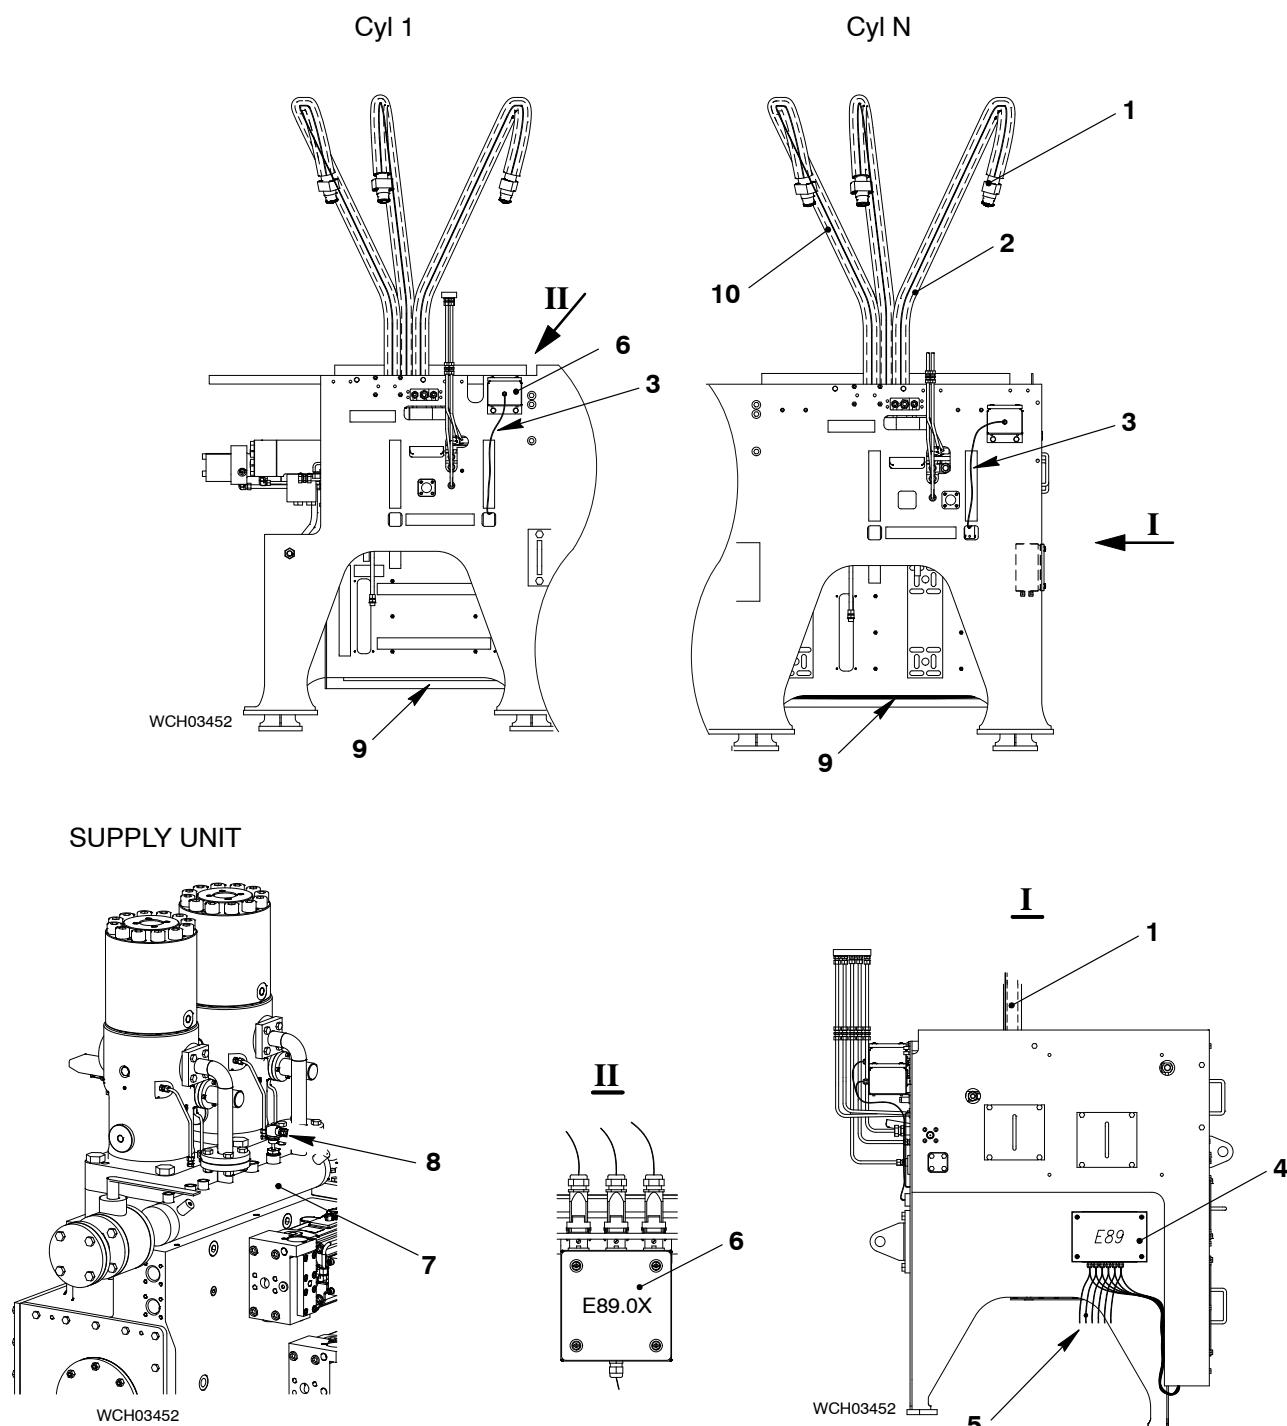

Fig. 2: Electrical Trace Heating
The temperature element TE3411C (8, Fig. 2) measures the fuel temperature in the fuel inlet pipe (7).